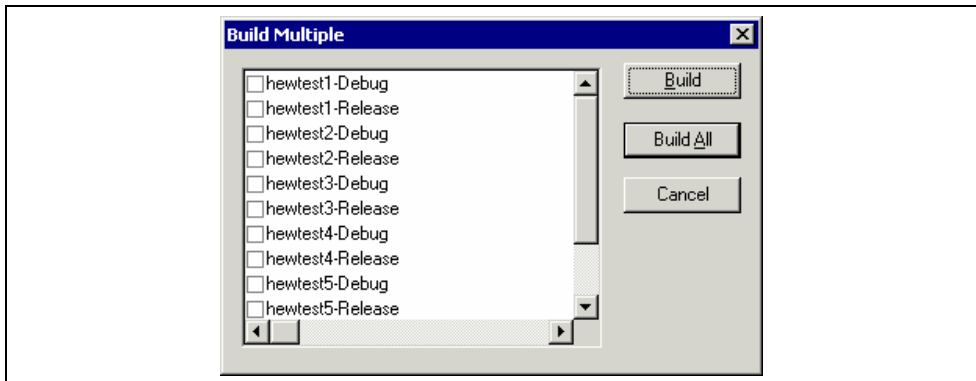

Figure 2.18: Build Multiple Dialog
1. Select [**Build->Build Multiple**]. The figure displayed in figure 2.18.
2. The build multiple gives you the choice of which projects and configurations should be built. To select which projects and configurations need to be built select the check box next to the project – configuration combination you want to build. For example, in figure 2.18 if you wanted to build the entire “hewtest2” project you would check the “hewtest2-Debug” and the “hewtest2-Release” selections and leave all other check boxes unchecked.